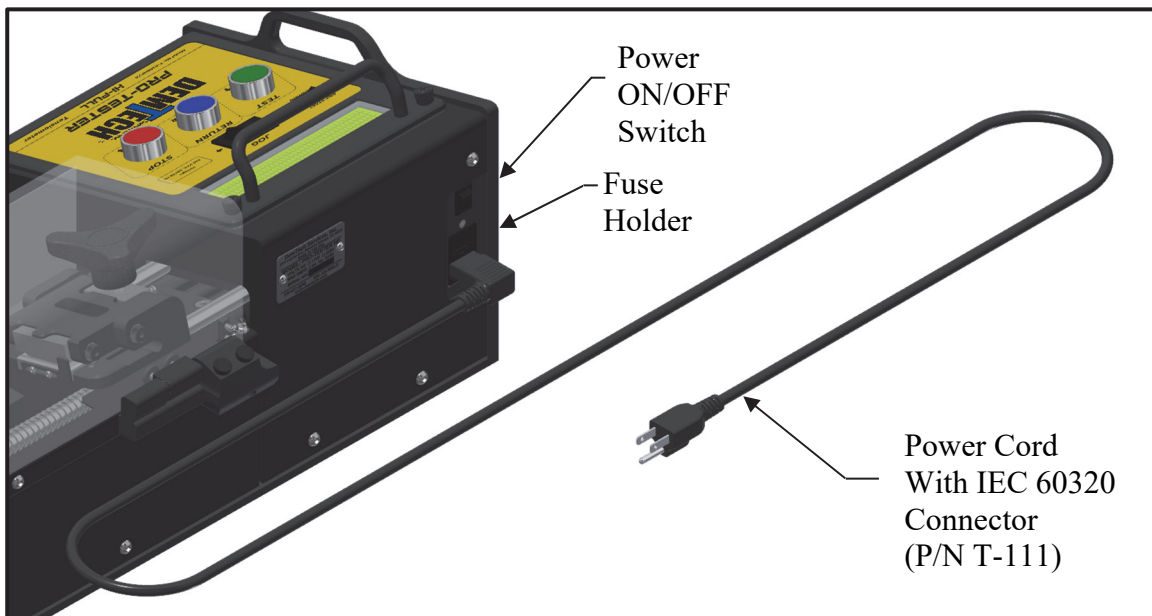

Figure 5.1
- a. Verify proper operation of the Pro-Tester™ before proceeding with the remainder of the installation. The Pro-Tester™ is equipped with a “soft-start” feature. This feature utilizes a toggle power switch on the rear of the system. Toggle the switch up to turn the system ON. Toggle the switch down to turn the system OFF. This feature provides a built in safety to protect the system during connection to a field generator by automatically turning the power off to the system any time AC power is disconnected either by turning off the generator or unplugging the power cord. Upon startup generators can produce significant power surges which can be harmful to the Pro-Tester™. This soft-start feature eliminates ill effects from this phenomenon. Find the Power Cord included with your system and plug one end into the appropriate connector at the rear of the system (refer to Figure 1). Plug the other end into an electrical outlet supplying the proper ~(AC) power. Toggle the Power Switch to the ON position (refer to Figure 5.1).